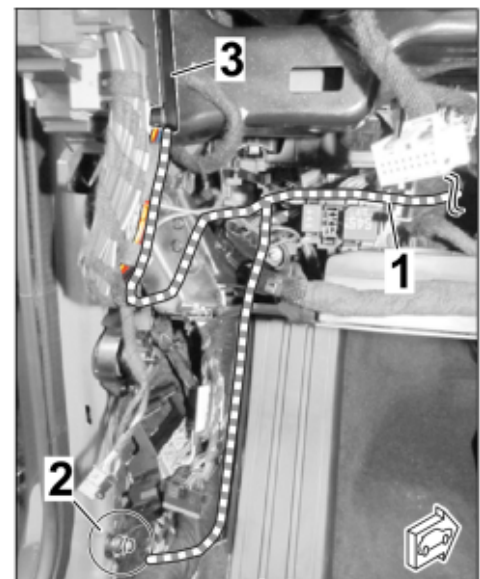

Figure 25
2.4.7 Route branch for power supply/ground (line BN; 1.0² with cable ring eyelet and line RD/YE; 1.0²) from wire harness for engine noise control unit/pulse sender) to the passenger compartment as follows (⇒ Figure 25):